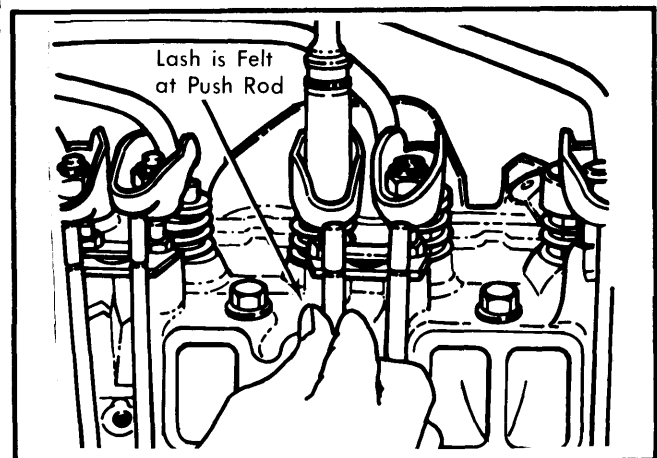

Fig. 7 Adjusting Valve Lash
2) Adjust valves by backing off adjusting nut until lash is felt at push rod, then tighten until all lash is removed. Tighten adjusting nut an additional 1/2 turns. See Fig. 7. Rotate crankshaft to No. 4 firing position and adjust following valves: